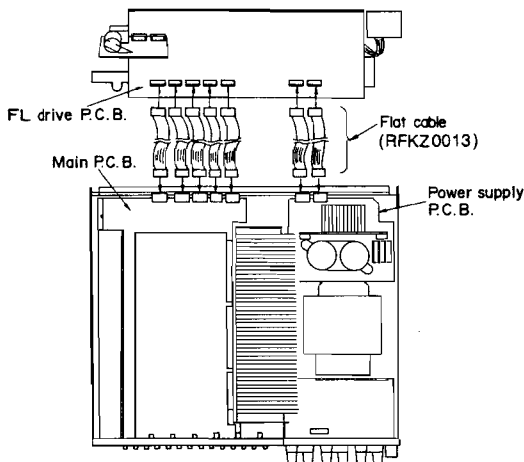

Fig. 4
10. When checking the soldered surface of the FL drive P.C.B. operation P.C.B. and replacing the parts, do as shown in the Fig. 4.